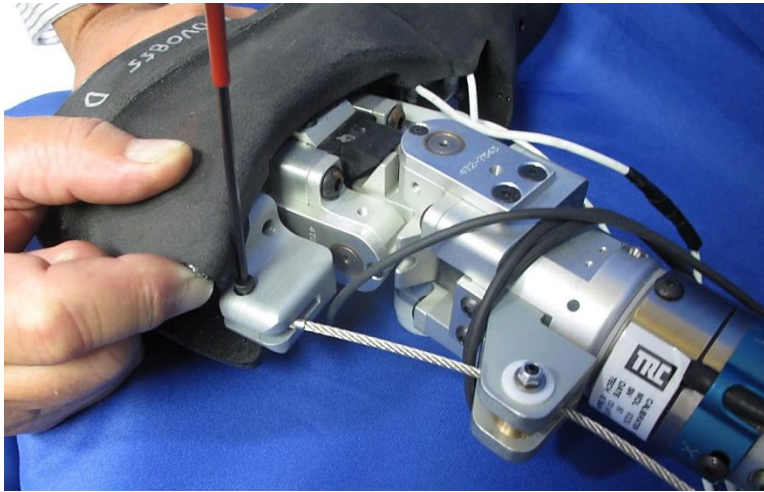

Figure 12-63. Secure Achilles cable at ankle
- 12.2.2.43 Allow the ball to move up to the top of the recessed area in the mounting post and secure the cable in place by inserting an M3 x 0.5 x 12 SHCS into the hole on the side of the mounting post (Figure 12-63).